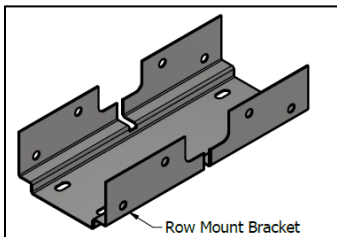
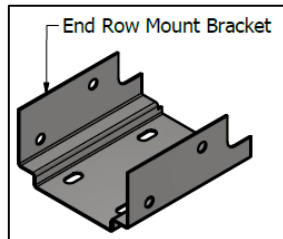

Figure 7
Figure 8
1. For connecting row mount fixtures, use the brackets shown in Figure 7 and Figure 8.